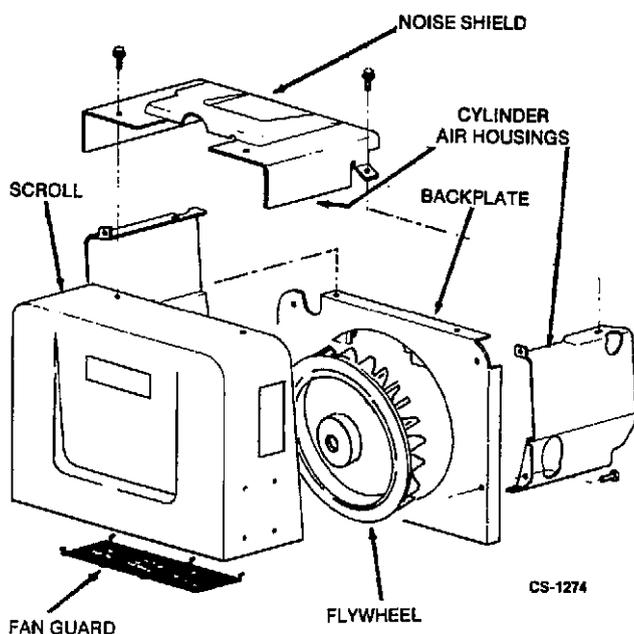

FIGURE 6-4. COOLING SYSTEM
2. Remove the capscrews that secure the noise shield (see Figure 6-4) to the engine. Lift off the noise shield.
1. Remove the spark plugs and fan scroll (Figure 6-4) so that the engine can be turned by hand.